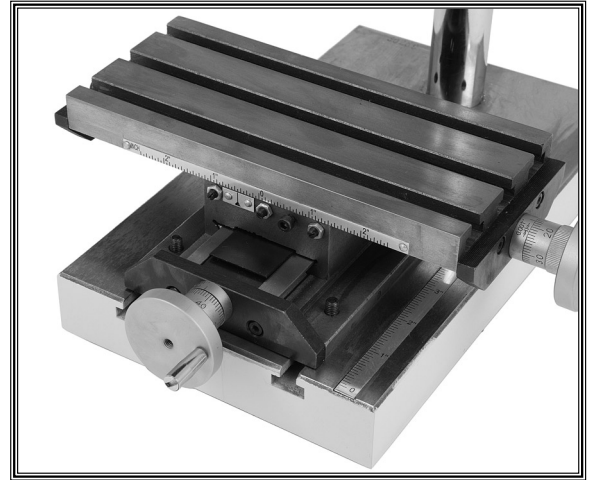

Figure 8. T-bolt installation.
3. Slide the T-bolts into the T-slots and place the compound slide table over the T-bolts, as shown in **Figure 8**.